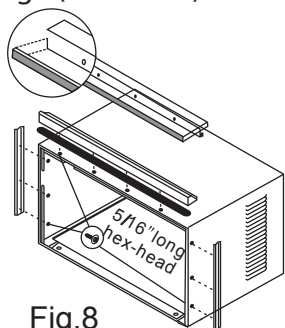

Fig. 8
2. Install top angle and side retainers to cabinet as shown in Fig. 8 (10 screws).